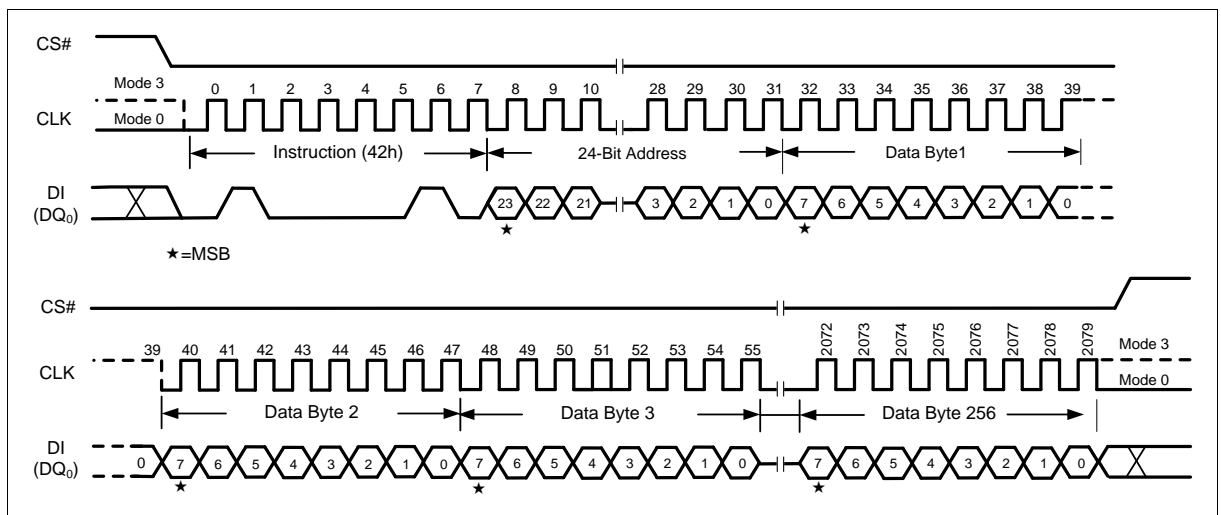

Figure 61 Program Security Sector Instruction (SPI Mode only)
The Program Security Sector instruction sequence is shown in Figure 61. The Security Sector Lock Bit (LB) in the Status Register-2 can be used to OTP protect the Security Sector. Once a lock bit is set to 1, the Security Sector will be permanently locked and Program Security Sector instruction will be ignored.